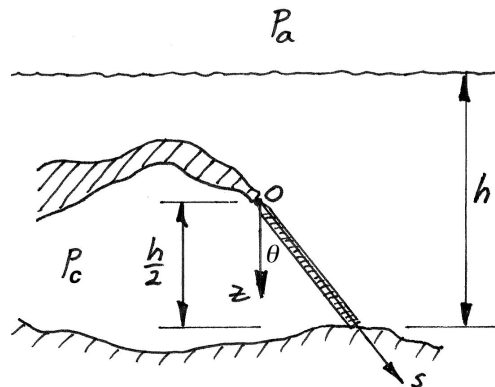

Figure P2.46
2.46 An underwater cave has a gate of width w , uniform thickness, and weight W mounted on a frictionless hinge at a point O, as shown in Figure P2.46. Find the internal gauge pressure p_c when the gate is on the point of opening. Indicate all your working clearly, and state all your assumptions. (Hint: use gauge pressure throughout).